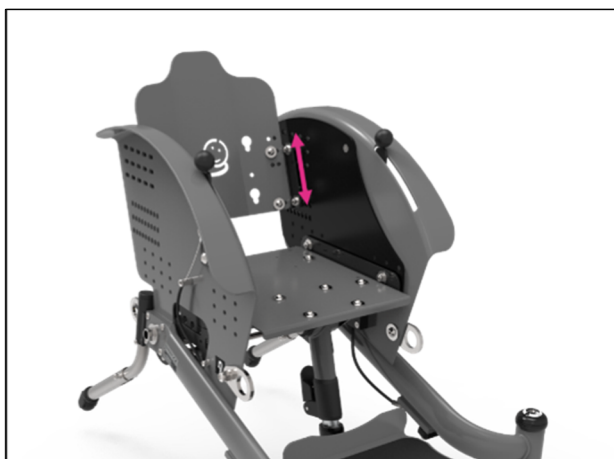

Figure 7: Adjusting the back support height
1. Loosen the two nuts (see Figure 7) completely and remove the two hexagon head screws from the holes on both sides of the wheelchair.
1. Loosen the upper nut (see Figure 7) and remove the hexagon head screw on both sides.
2. Loosen the lower nut (see Figure 7) by one turn on both sides and tilt the back support according to the hole pattern until the desired angle is reached.